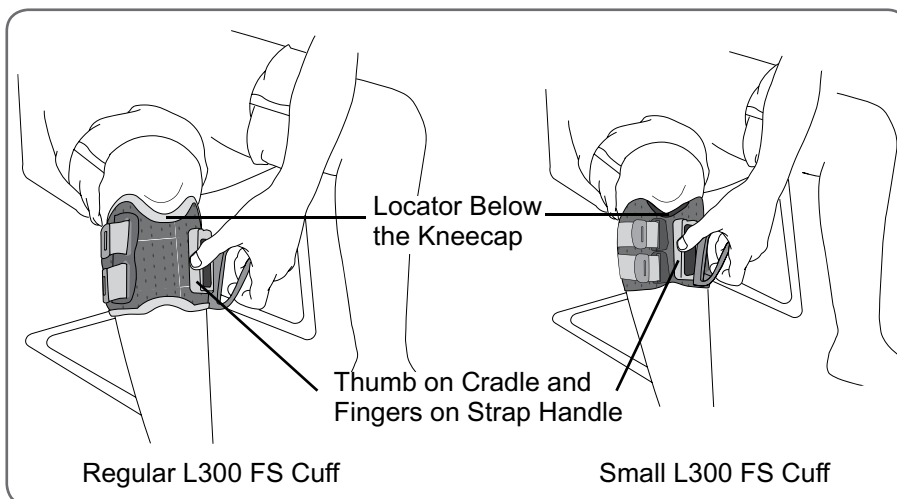

Figure 6-3: Fastening the L300 FS Cuff strap.
6. Grasp the handle of the L300 FS Cuff strap. See Figure 6-3. With your thumb on the FS Cuff cradle, fasten the strap handle around the cradle. With the Small L300 FS Cuff you may need to use your other hand to stabilize the cuff on the leg.